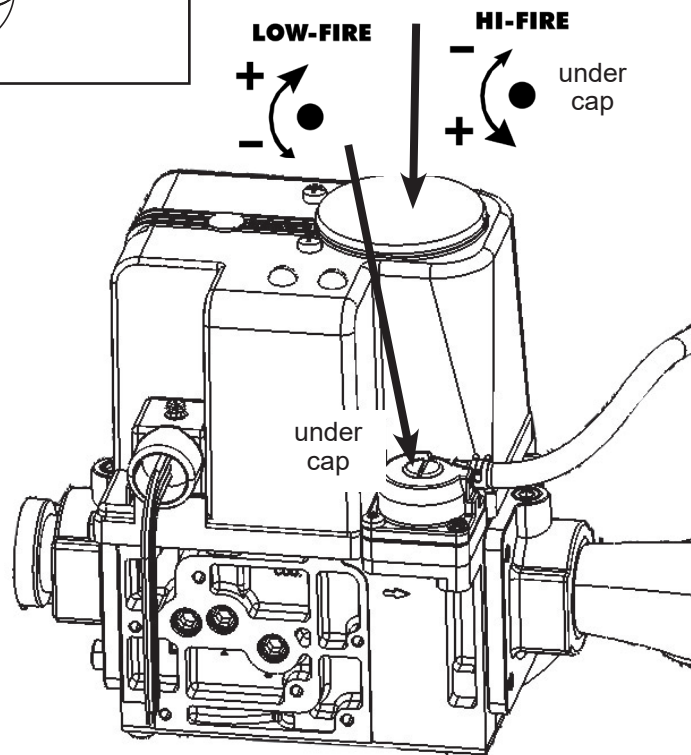

Figure 47. Gas Valve
1. On the Gas Valve, locate the adjustments for High Fire, and Low Fire. See Figure 45 on page 74 thru Figure 47 on page 76.
See Figure 45 thru Figure 47.